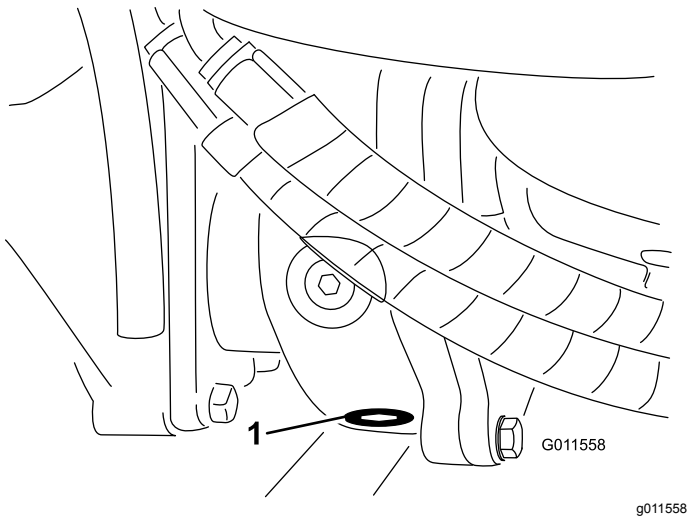

Figure 91
5. Clean the area around the drain plug at the bottom of the gear box (Figure 91).